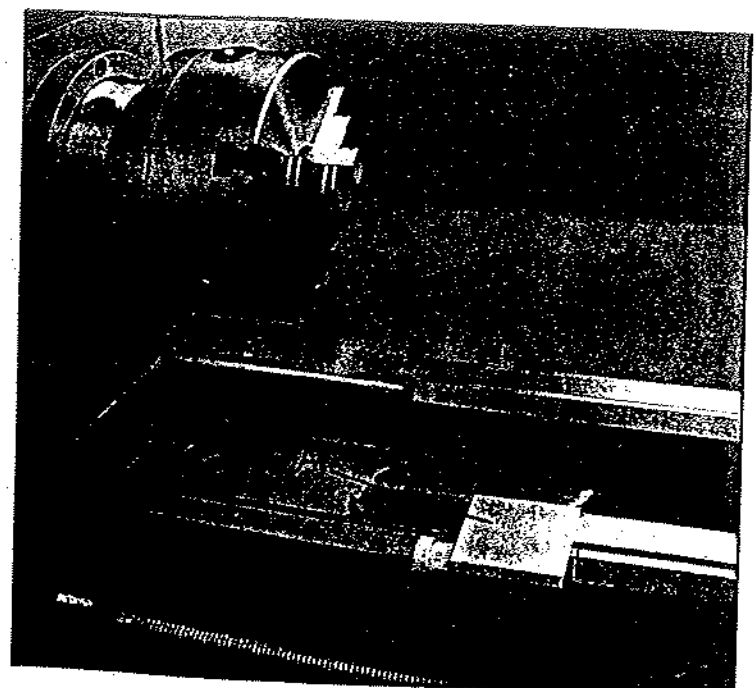

Fig. 15
24. **Micro Carriage Stop** (A, Fig. 15) - located on the lathe bed. Loosen two hex socket cap screws underneath body and slide along bed to desired position. Tighten screw to hold in place.